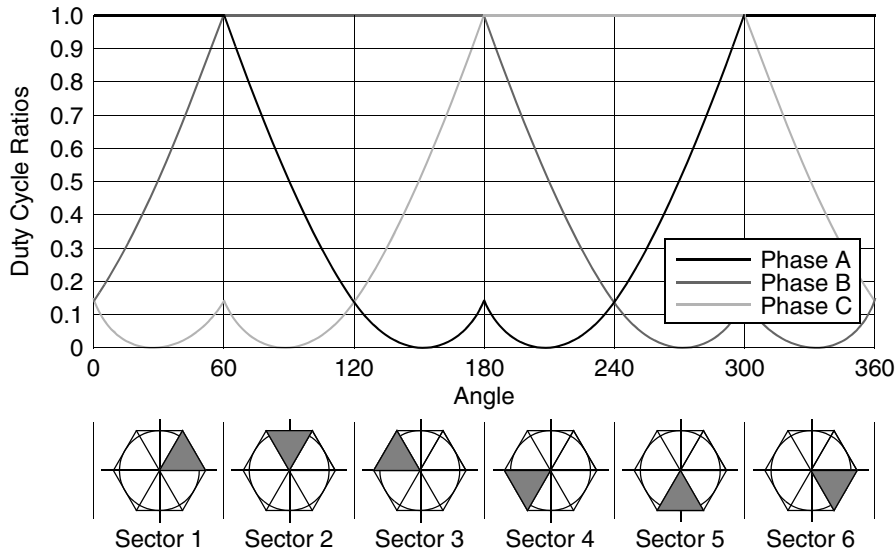

Figure 4. Space Vector Modulation with O_{111} Nulls Technique
- **Space Vector Modulation With O_{111} Nulls (SVM_U7N)** - The input parameters are orthogonal components of an applied motor voltage vector alpha and beta in the range (-1,1). **Figure 4** depicts the modulation technique.